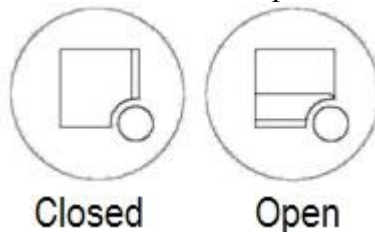

Fig. 4 — Positions of the fan protective grid fixing devices
4.2. Before starting the operation make sure that the protective grid (7) is in place and is fixed by the fixing devices (two fixing devices at the corners are in the “Closed position (see Fig. 4)).